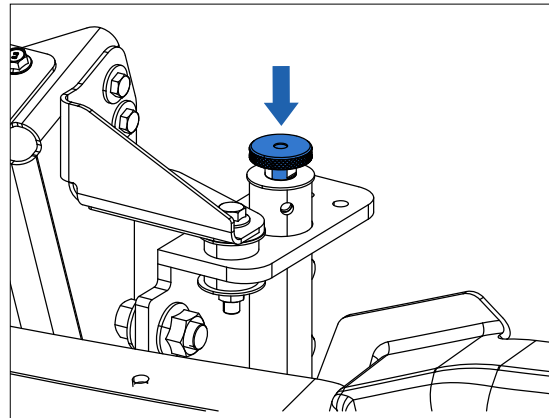

Figure 33 - Tow hook locking dowel
4. Lower the locking dowels in their receptacle (Figure 33).